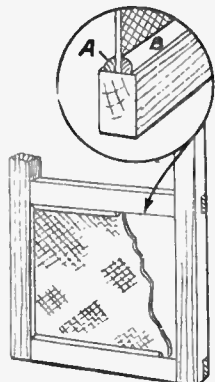

Fig. 6—Fixing the panels of perforated zinc
inside each of the openings, fine brass wire nails being used in the fixing. First, of course, nail round, say, the four outside strips of each panel as (A), Fig. 6, then insert the panels of zinc or wire gauze and follow with the inside strips (B). Like this the panels are well held between the fillets.